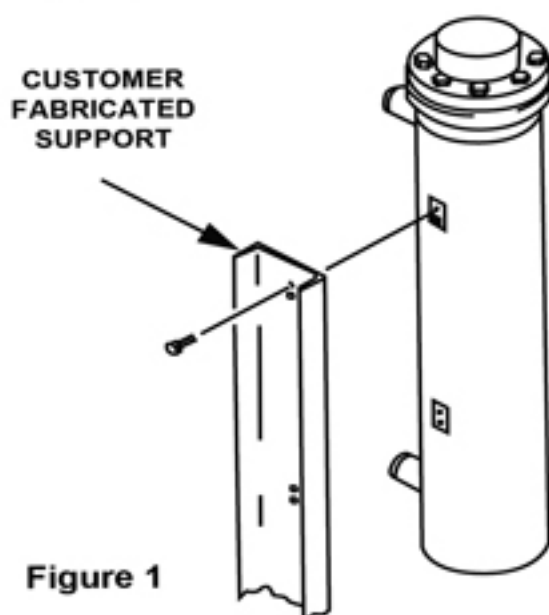

Figure 1
1. Mounting lugs with tapped holes (1/2 - 13 x 1" deep) are located on the side of the vessel for bolting the heater to structural members or a customer fabricated support system. Heater should not be supported by the piping. Mounting bolts should be Grade 8 bolts and torqued in accordance with SAE specifications (see Figure 1).